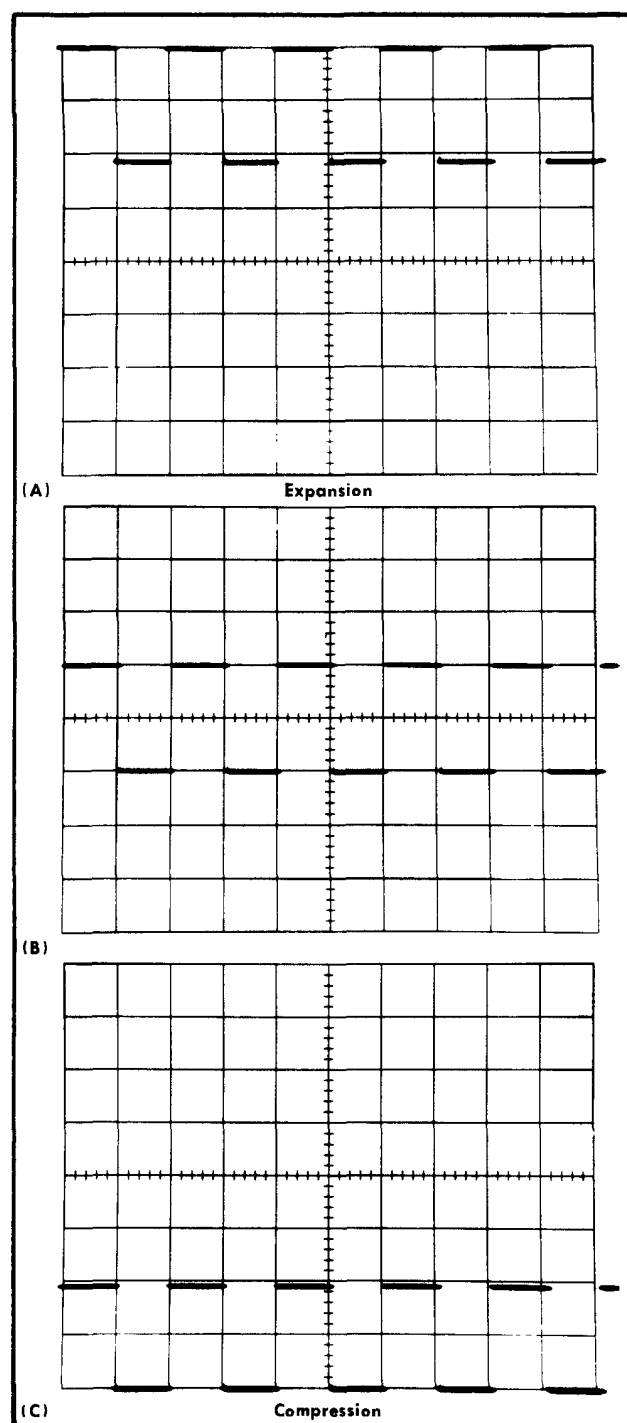

Fig. 6-20. Typical CRT display showing acceptable vertical compression and expansion. Waveform (A) shows expansion; waveform (C) shows compression.
- CHECK—Compression or expansion not to exceed 0.2 division (see Fig. 6-20).